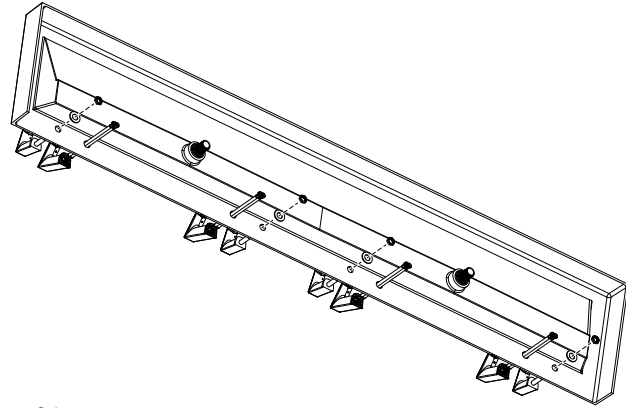

Figure 26
5. Install Faucet and Soap spouts, (Figure 26) onto sink according to manufacturer's instructions provided with component.